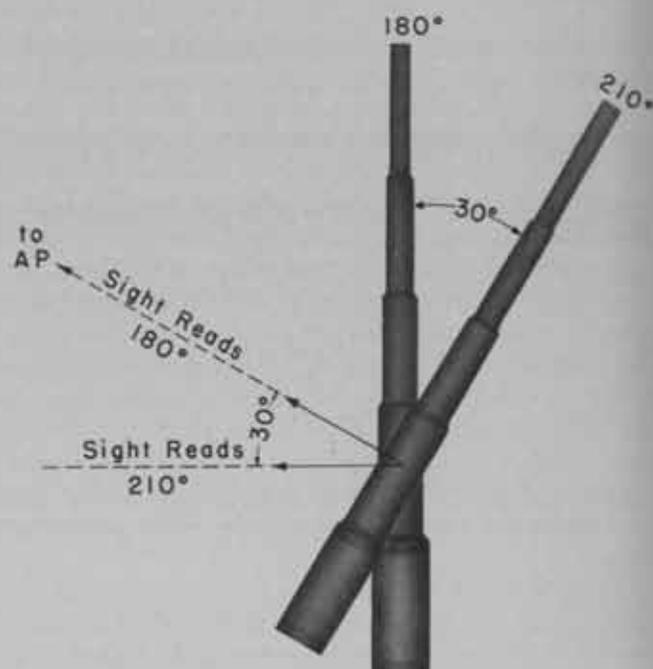

Figure 2.—
on which the gun and carriage are traversed. Let the small arrow (see fig. 2) represent the panoramic telescope which is mounted above the pintle center and pointed at the aiming point (AP). This is the position for orientation in this particular case. Further assume that the gun is pointing due north. To orient the sight, merely point it at the aiming point and slip the sight scale (see fig. 2) until it reads 180° (zero south) which is the azimuth at which the gun is pointing. Now suppose it is desired to fire at an azimuth of 210°. First, turn the movable sight head to the left until the sight scale reads 210°. (Notice that as the sight head is turned to the left, azimuths increase on the scale.) Its line of sight is then in position and the gun is still pointing due north. Now traverse gun and carriage to the right until the line of sight is again directed at the aiming point, and the gun will be pointed at the desired azimuth, 210°. In this case there is no error in pointing because the sight is mounted directly above the gun pivot (pintle center). After the sight has been turned 30° to the left of the aiming point and until it reads 210°, the gun must be traversed the full 30° back to the right in order to put the line of sight again on the aiming point. This points the gun at 210° azimuth. Notice that the line of sight is now parallel to,